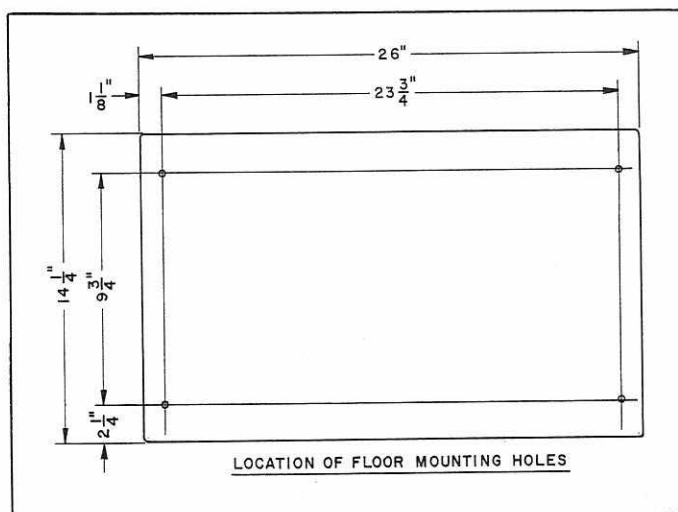

Fig. 3.
1. It is not advisable to move the Uniplane around as this may cause misalignment of the fences and table. The Uniplane mounted on the stand should be placed in a suitable location and anchored to the floor. See Fig. 3 for anchor bolt locations.